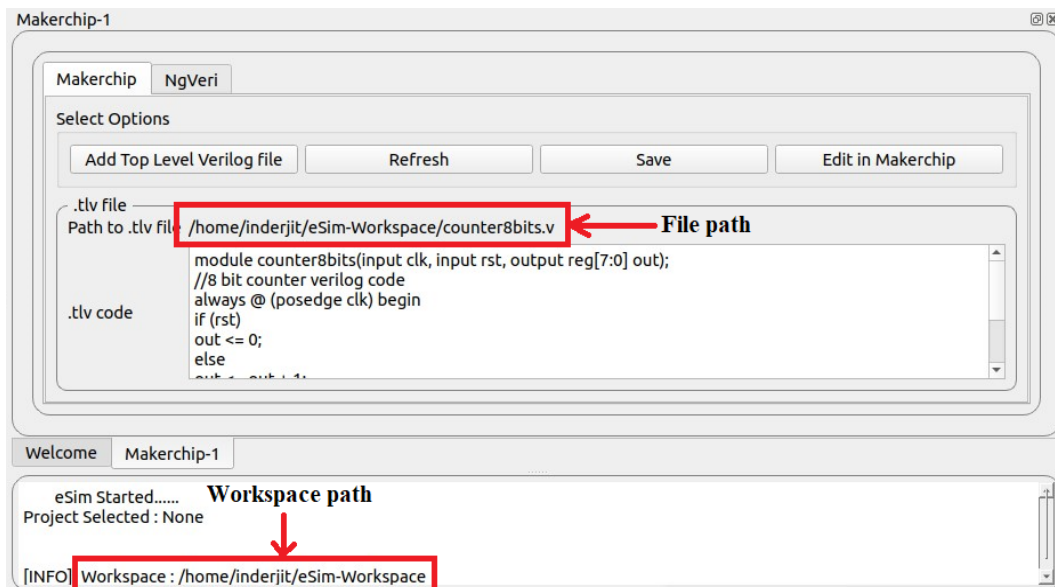

Figure 11.43: File and workspace path without spaces and special characters
2. User should avoid spaces or special characters in the path to file. Fig. 11.43 shows file path and workspace path without any spaces and special characters.